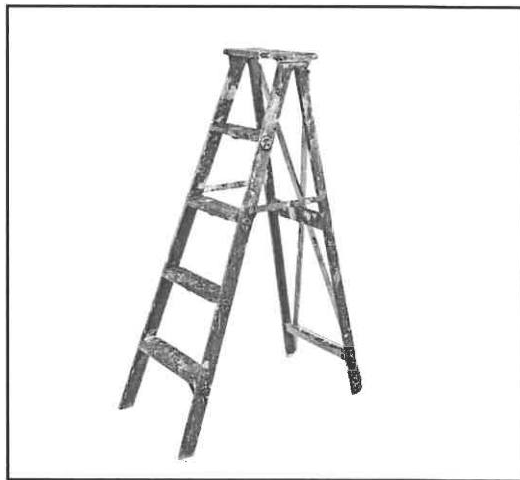

FIGURE 1.2
- 1.2 FIGURE 1.2 below shows a ladder that is used on a construction site.